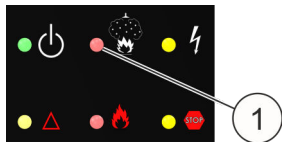

Fig. 21: LED "Extinguishing system triggered"
31. ▶ Check whether the LED "Extinguishing system triggered" (Fig. 21 /1) does not light up.